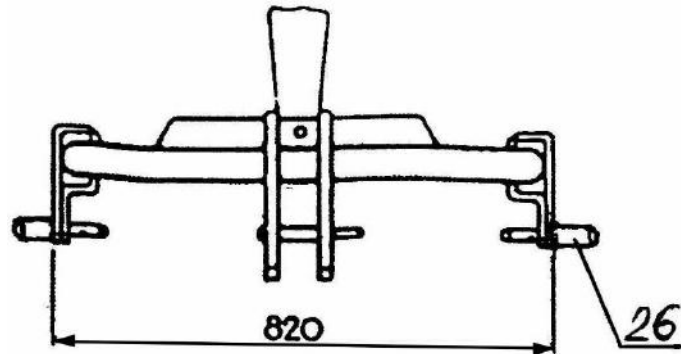

Fig.15 Spacing of pins of lower attachments of three-point frame, category II
4. Set the pins of lower attachments of tractor three-point framing according to category II (figure 15).